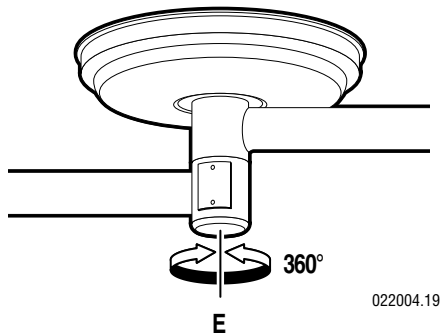

Figure 4-12.
a. Check the horizontal rotation axis tension by moving the Radial Arms through their full range of travel around the center mounting hub. Refer to figure 4-12.